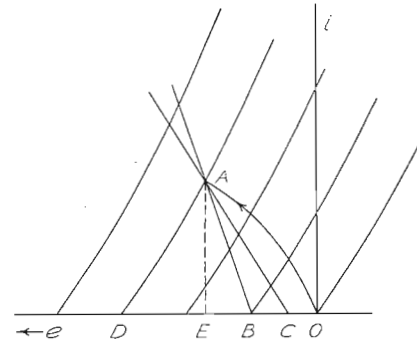

Fig. 6.
In Fig. 6 is shown the construction. The net voltage at the moment under consideration is CD . The voltage $Z_L \Sigma i_{cL}$ is laid off from the origin as OB . Through B is drawn BA to represent the finite operator Z_L . Then AC , which represents the finite operator $(Z + Z_L)$, is slid parallel to itself until its intersection with AB in A is also that of a diode rectification curve AD , such that DC equals the net voltage ($e_c - Z_L \Sigma i_{cL} - Z \Sigma i_c = e_n$). Then AE equals $i_T r_d$, DE represents the diode voltage drop $i_T r_d$, and EO equals $(i_T Z_L + Z_L \Sigma i_{cL})$ or e_2 , the voltage across the diode load. In addition, it is evident that Eq. (17) is satisfied. The important point to note is that r_d is here a family of curves, and hence the proper member of the family must be selected. This has been done by drawing Z_L or AB at a distance BO ($= Z_L \Sigma i_{cL}$) from the origin O , so that point E will be distant from O by the amount e_2 , the voltage across the diode load.
Below: Fig. 6. Howard 437.